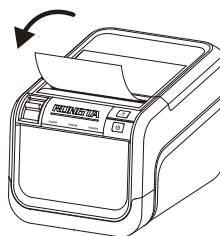

Figure 4
- 4) Close the upper cover of the printer and gently press down until the upper cover clicks to lock. (As shown in Figure 4 below)